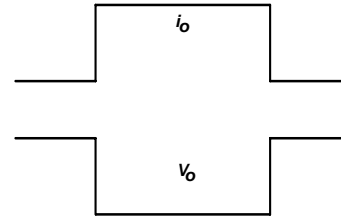
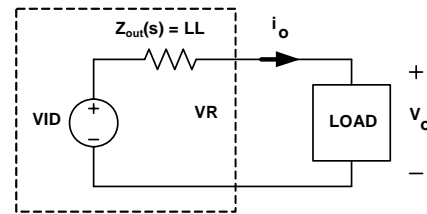

FIGURE 17. DESIRED LOAD TRANSIENT RESPONSE WAVEFORMS
FIGURE 23. VOLTAGE REGULATOR EQUIVALENT CIRCUIT
Assuming the compensator design is correct, Figure 17 shows the expected load transient response waveforms if C_n is correctly selected. When the load current I_{core} has a square change, the output voltage V_{core} also has a square response.
Figure 17 shows the desired load transient response waveforms. Figure 23 shows the equivalent circuit of a voltage regulator (VR) with the droop function. A VR is equivalent to a voltage source (= VID) and output impedance $Z_{out}(s)$. If $Z_{out}(s)$ is equal to the load line slope LL, i.e. constant output impedance, in the entire frequency range, V_o will have square response when I_o has a square change.